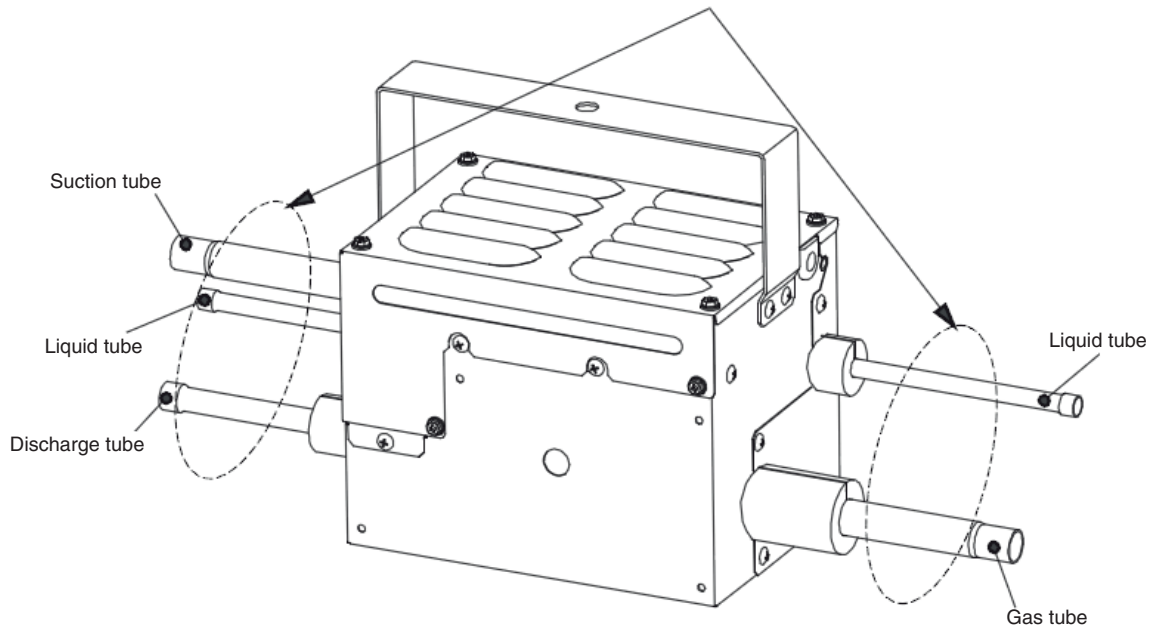

Fig. 3-13
- Connect the 9P connector coming from the solenoid valve kit through the power inlet of the indoor unit to the 9P connector (red) of the Solenoid Valve Control PCB (sold separately) as shown in Fig. 3-13. Accessory wire length is 5 m.